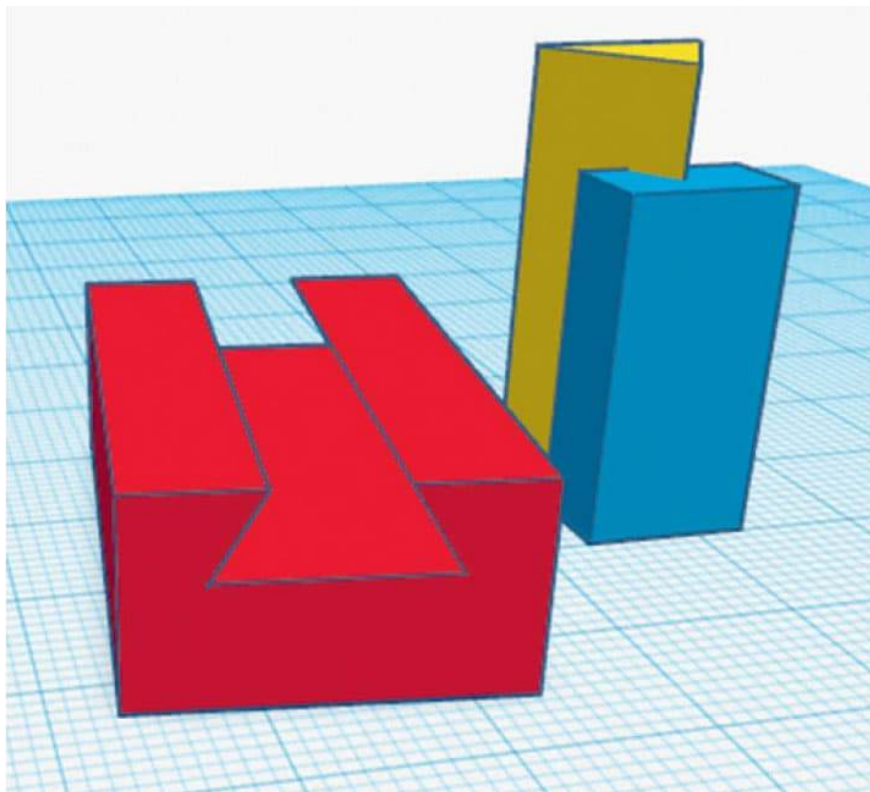

FIG. 5: The completed design positioned for 3D printing.
8. After testing the fit and adjusting the dimensions if needed, move the tail section away from the socket section, so they are separated for printing. If you used a box in step 4, you will need to rotate the tail section 90 degrees so it is standing up on its end (fig. 5). This will ensure there are no overhangs during the printing process.